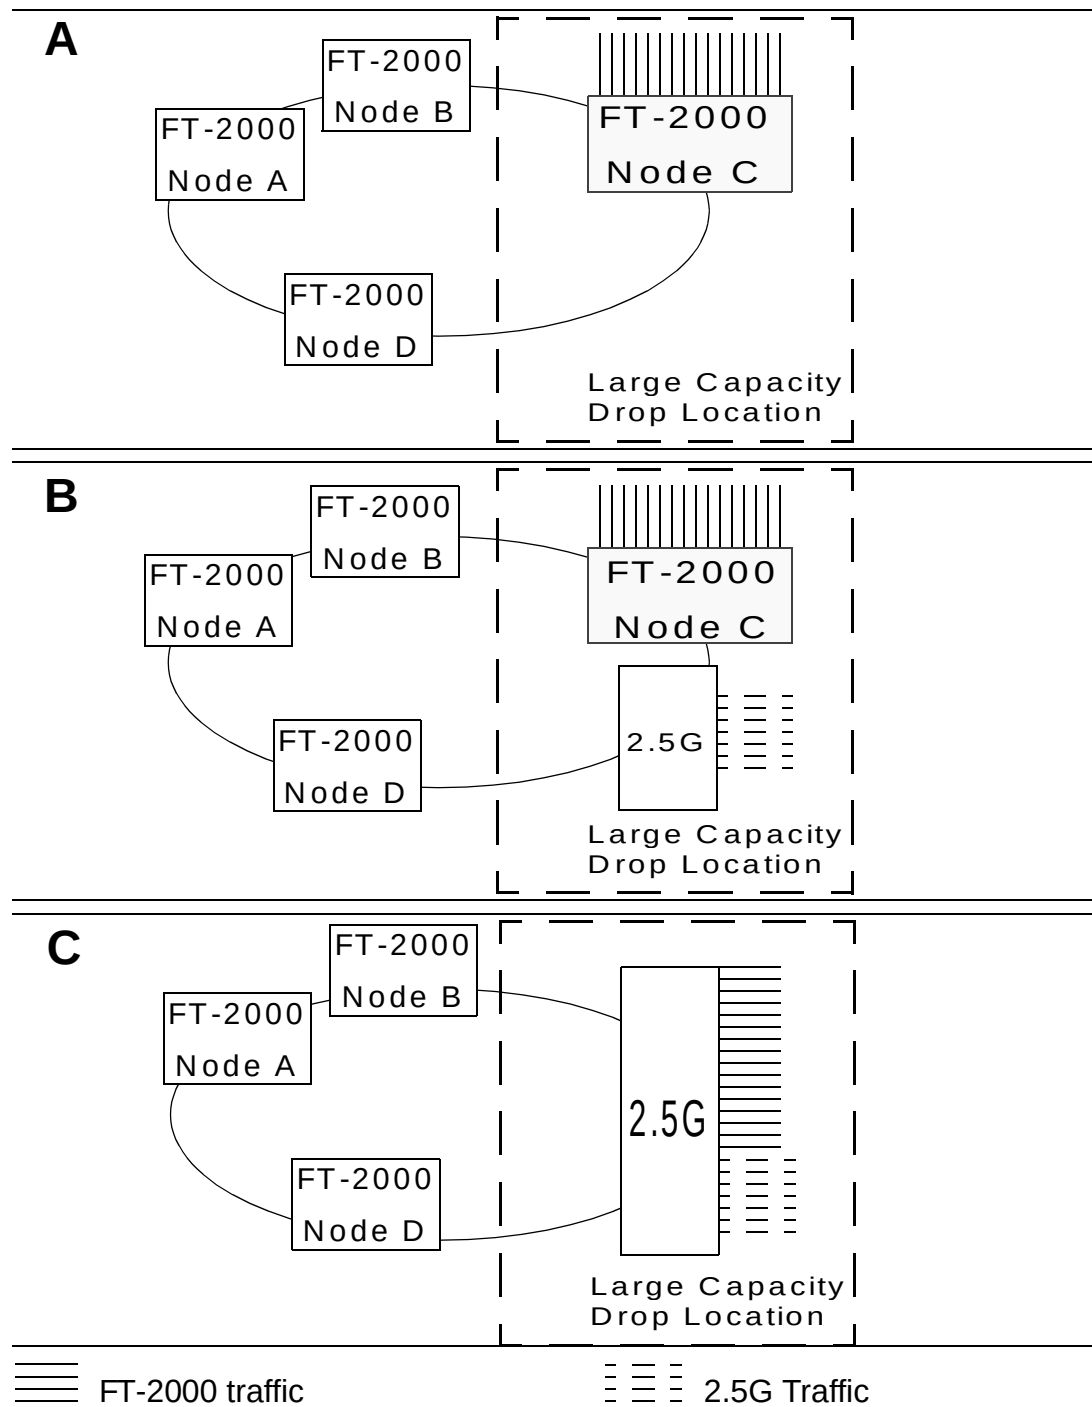

Figure 2-4. FT-2000/WaveStar 2.5G BLSR Interworking
Figure 2-4 (A) shows a normal FT-2000 ring, but node C has exhausted its low-speed interface capacity. Figure 2-4 (B) shows a 2.5G node added at the capacity exhaust location (node C). In Figure 2-4 (C), the FT-2000 node is removed and all traffic is moved onto the 2.5G node.